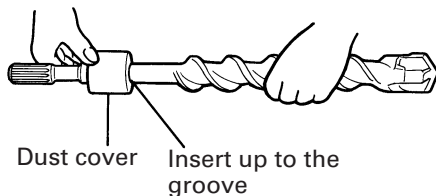

Fig. 2
6. How to install dust cover (Fig. 2)